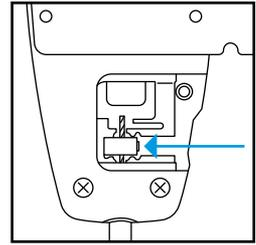

Figure 5
10. Slide the cable end block back over the steel inner cable and position the end block back into the corresponding slot in the satellite (see Fig. 5).